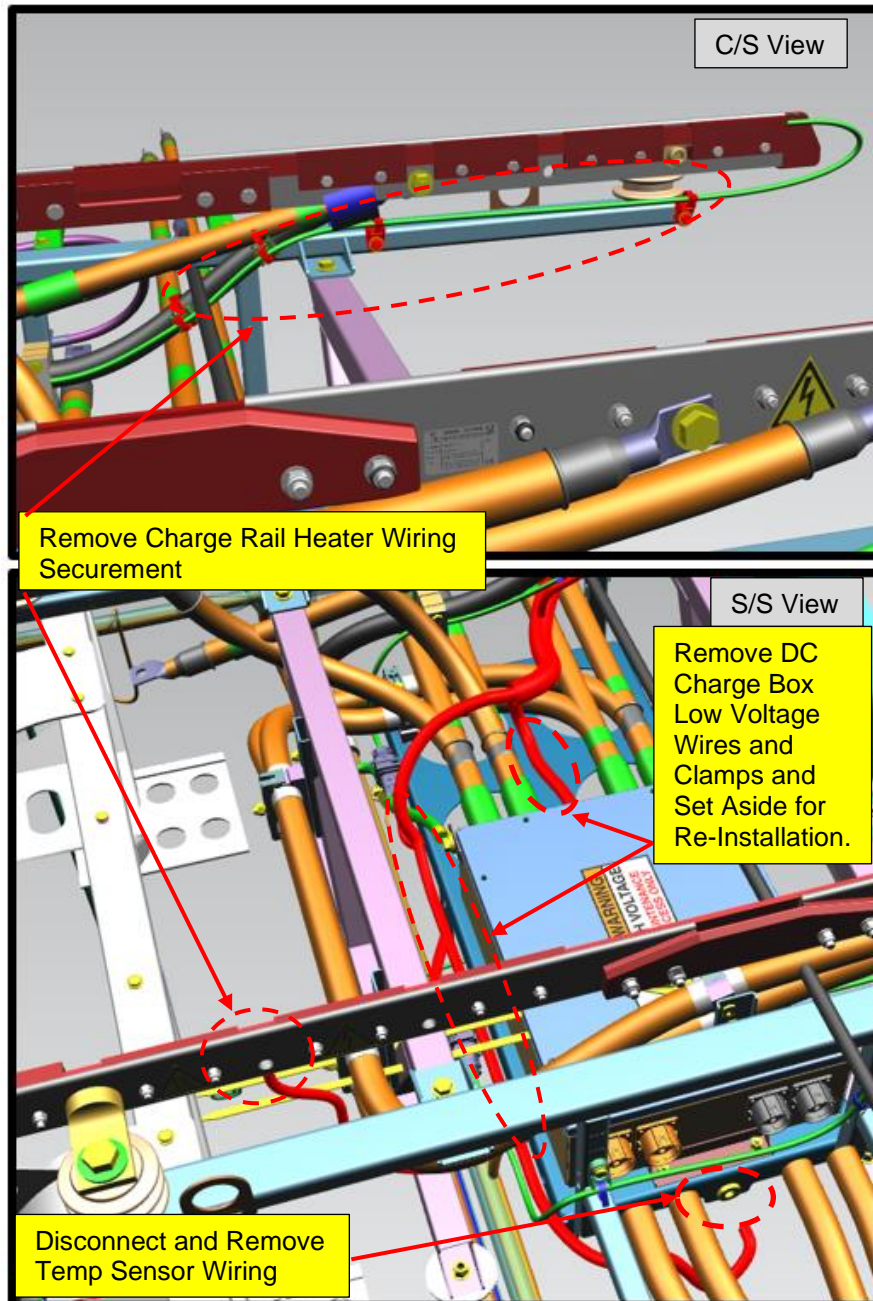

Figure 3B: Charge Rail Removal Location Reference.
11. Disconnect the curb side and street side heater wiring from charge rails and set hardware aside for re-installation. See Figure 3B.
12. Remove the low voltage harness connections and clamps to the DC charge box and set camps and hardware aside for re-installation. See Figure 3B.
13. Disconnect the temp sensor from under the DC charge rail box on the street side. See Figure 3B.